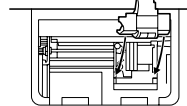

Fig. 3
- Install the new ink roller in the correct position. Make sure that the roller is securely in place. (Fig. 3)